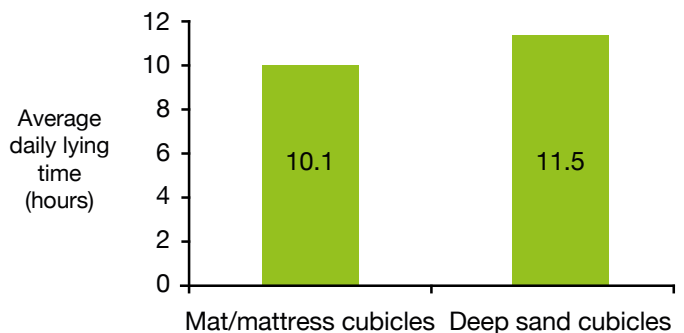

Figure 19. Lying times of cows in different types of cubicles
- Cows on deep bedded sand cubicles had the longest lying times – they spent an additional ~1.5 hours lying down vs. cows on mats or mattresses (Figure 19)